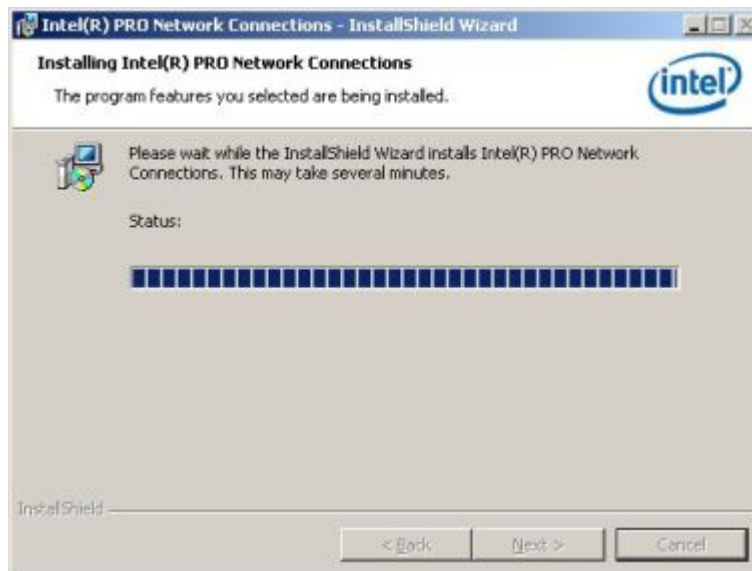

Figure 6-31: Intel® 82573 Driver Installation Progress
Step 24: The drivers are installed. See **Figure 6-31**.